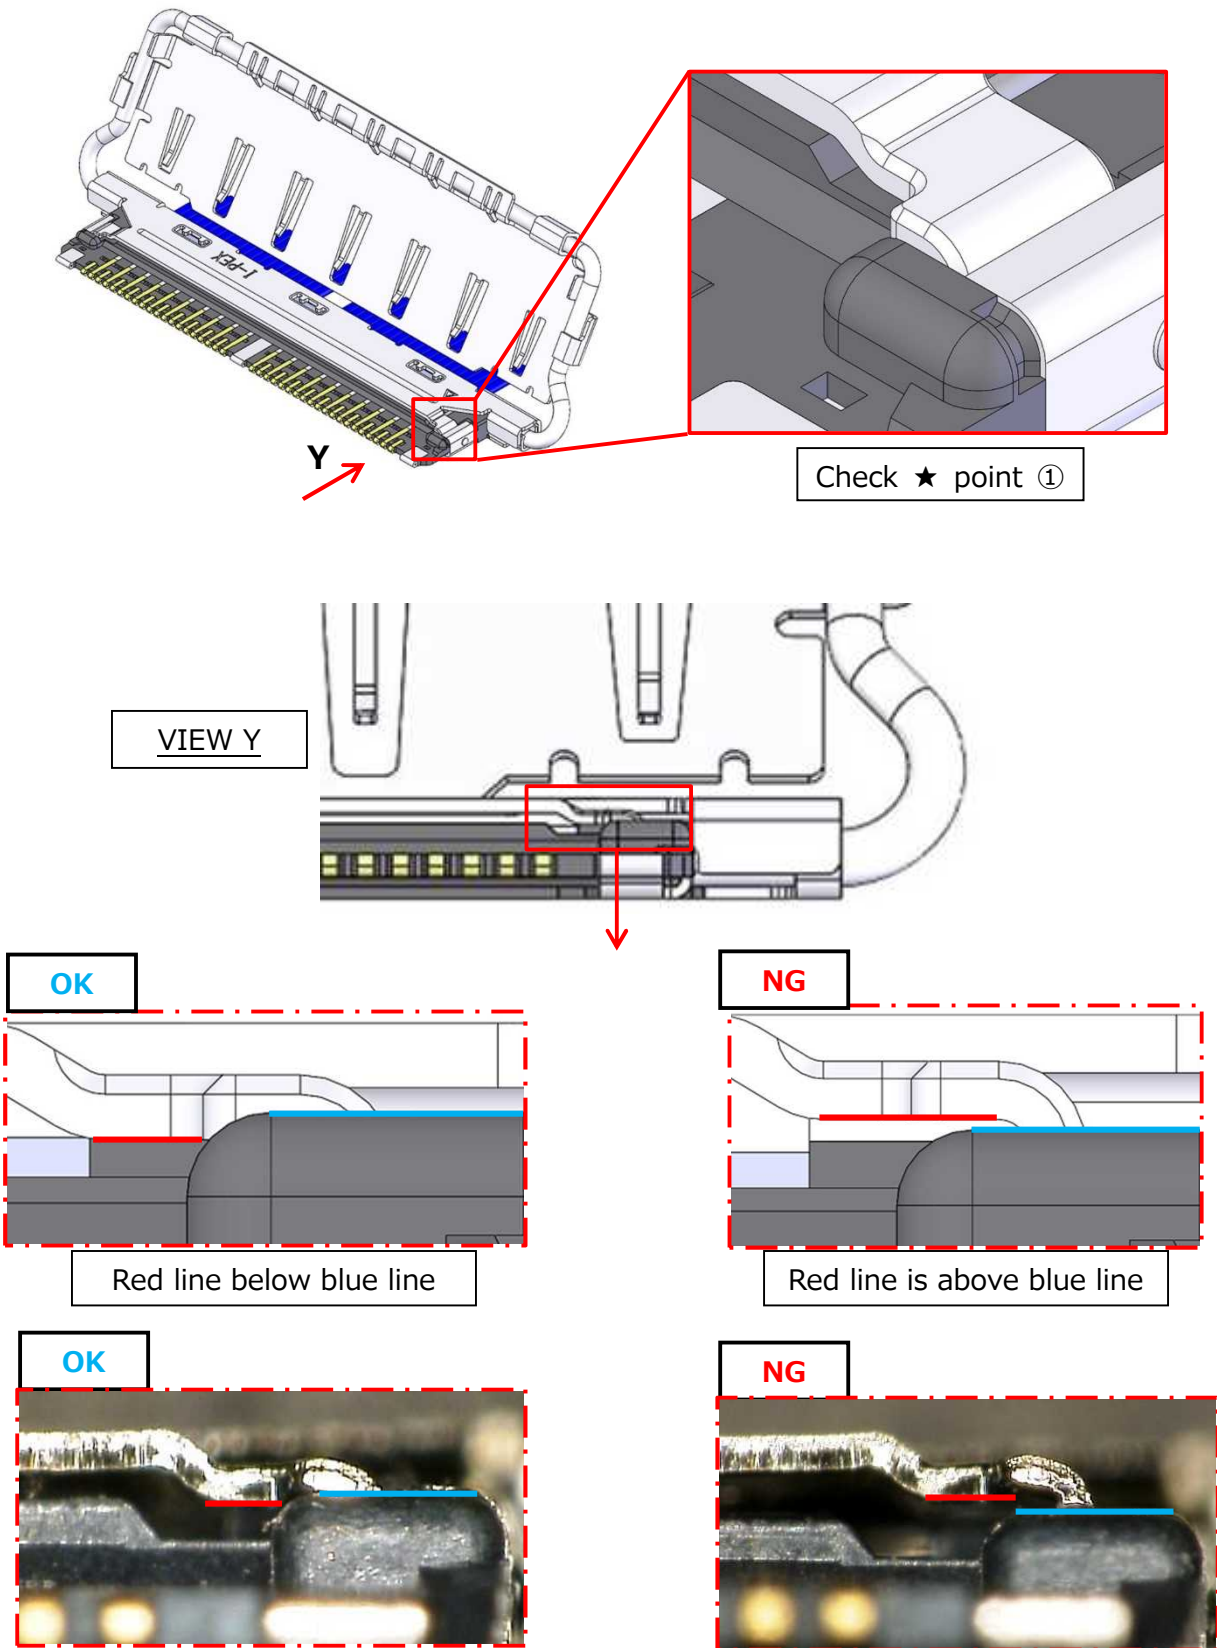

Fig.10 Confirm whether SHELL-A
※Check ★ point ①(Fig.10) from the front of connector as shown below.